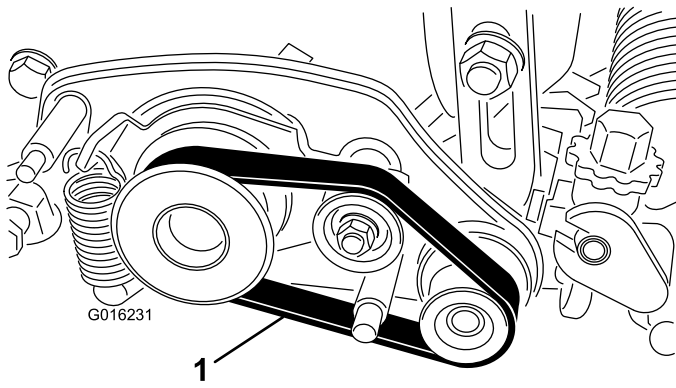

Figure 14
30. Insert the belt onto the driver pulley, idler pulley, and driven pulley routing as shown in Figure 14.